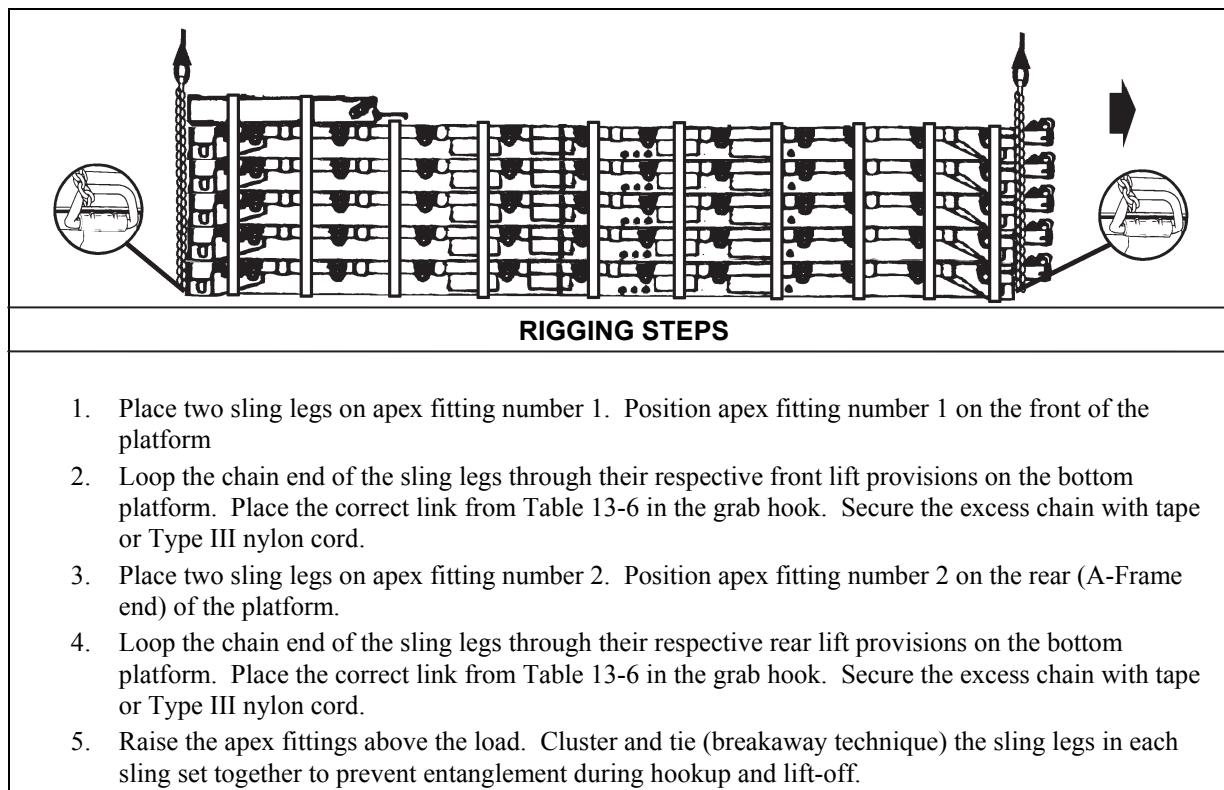

Figure 13-6. Container Roll-In/Out Platform, Empty, Stacked
- **Rigging.** Rig the load according to the steps in Figure 13-6.